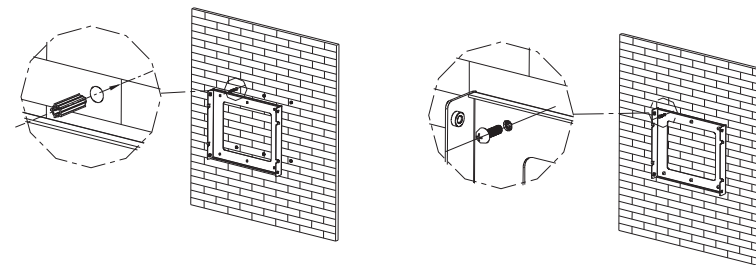

Fig 3.4
- Drill holes for screws while using the mounting frame as Fig 3.4. 4 holes for Growatt 2500MTL/3000MTL.
- Fix the mounting frame on the wall as Fig 3.4.